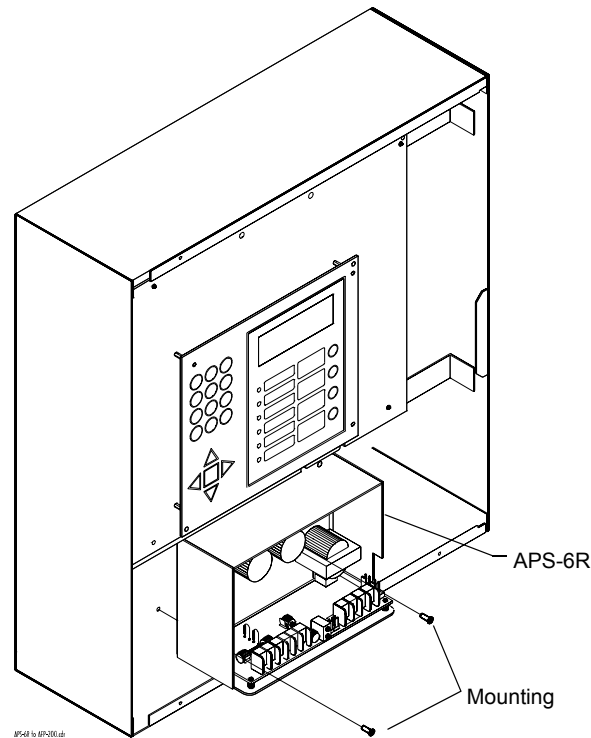

Figure 163 Mounting the APS-6R
1. Place the APS-6R into the cabinet as shown in Figure 163.